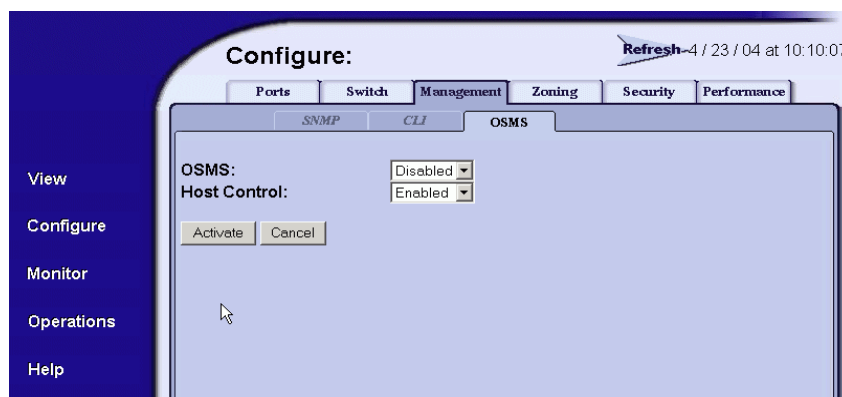

Figure 2-74 Configure Panel (Management Page with OSMS Tab)
1. At the *Configure* panel, click the *Management* tab and then the *OSMS* tab. The *Management* page displays with the *OSMS* tab selected (Figure 2-74).